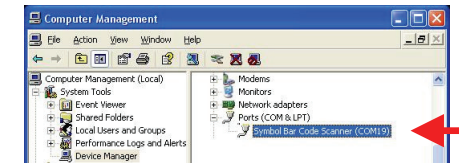

Figure 2
4. On the computer, check Device Manager to see if the computer successfully detects the scanner as "Symbol Bar Code Scanner." (The COM port number would vary depending on different hardware environment.) (Figure 2).